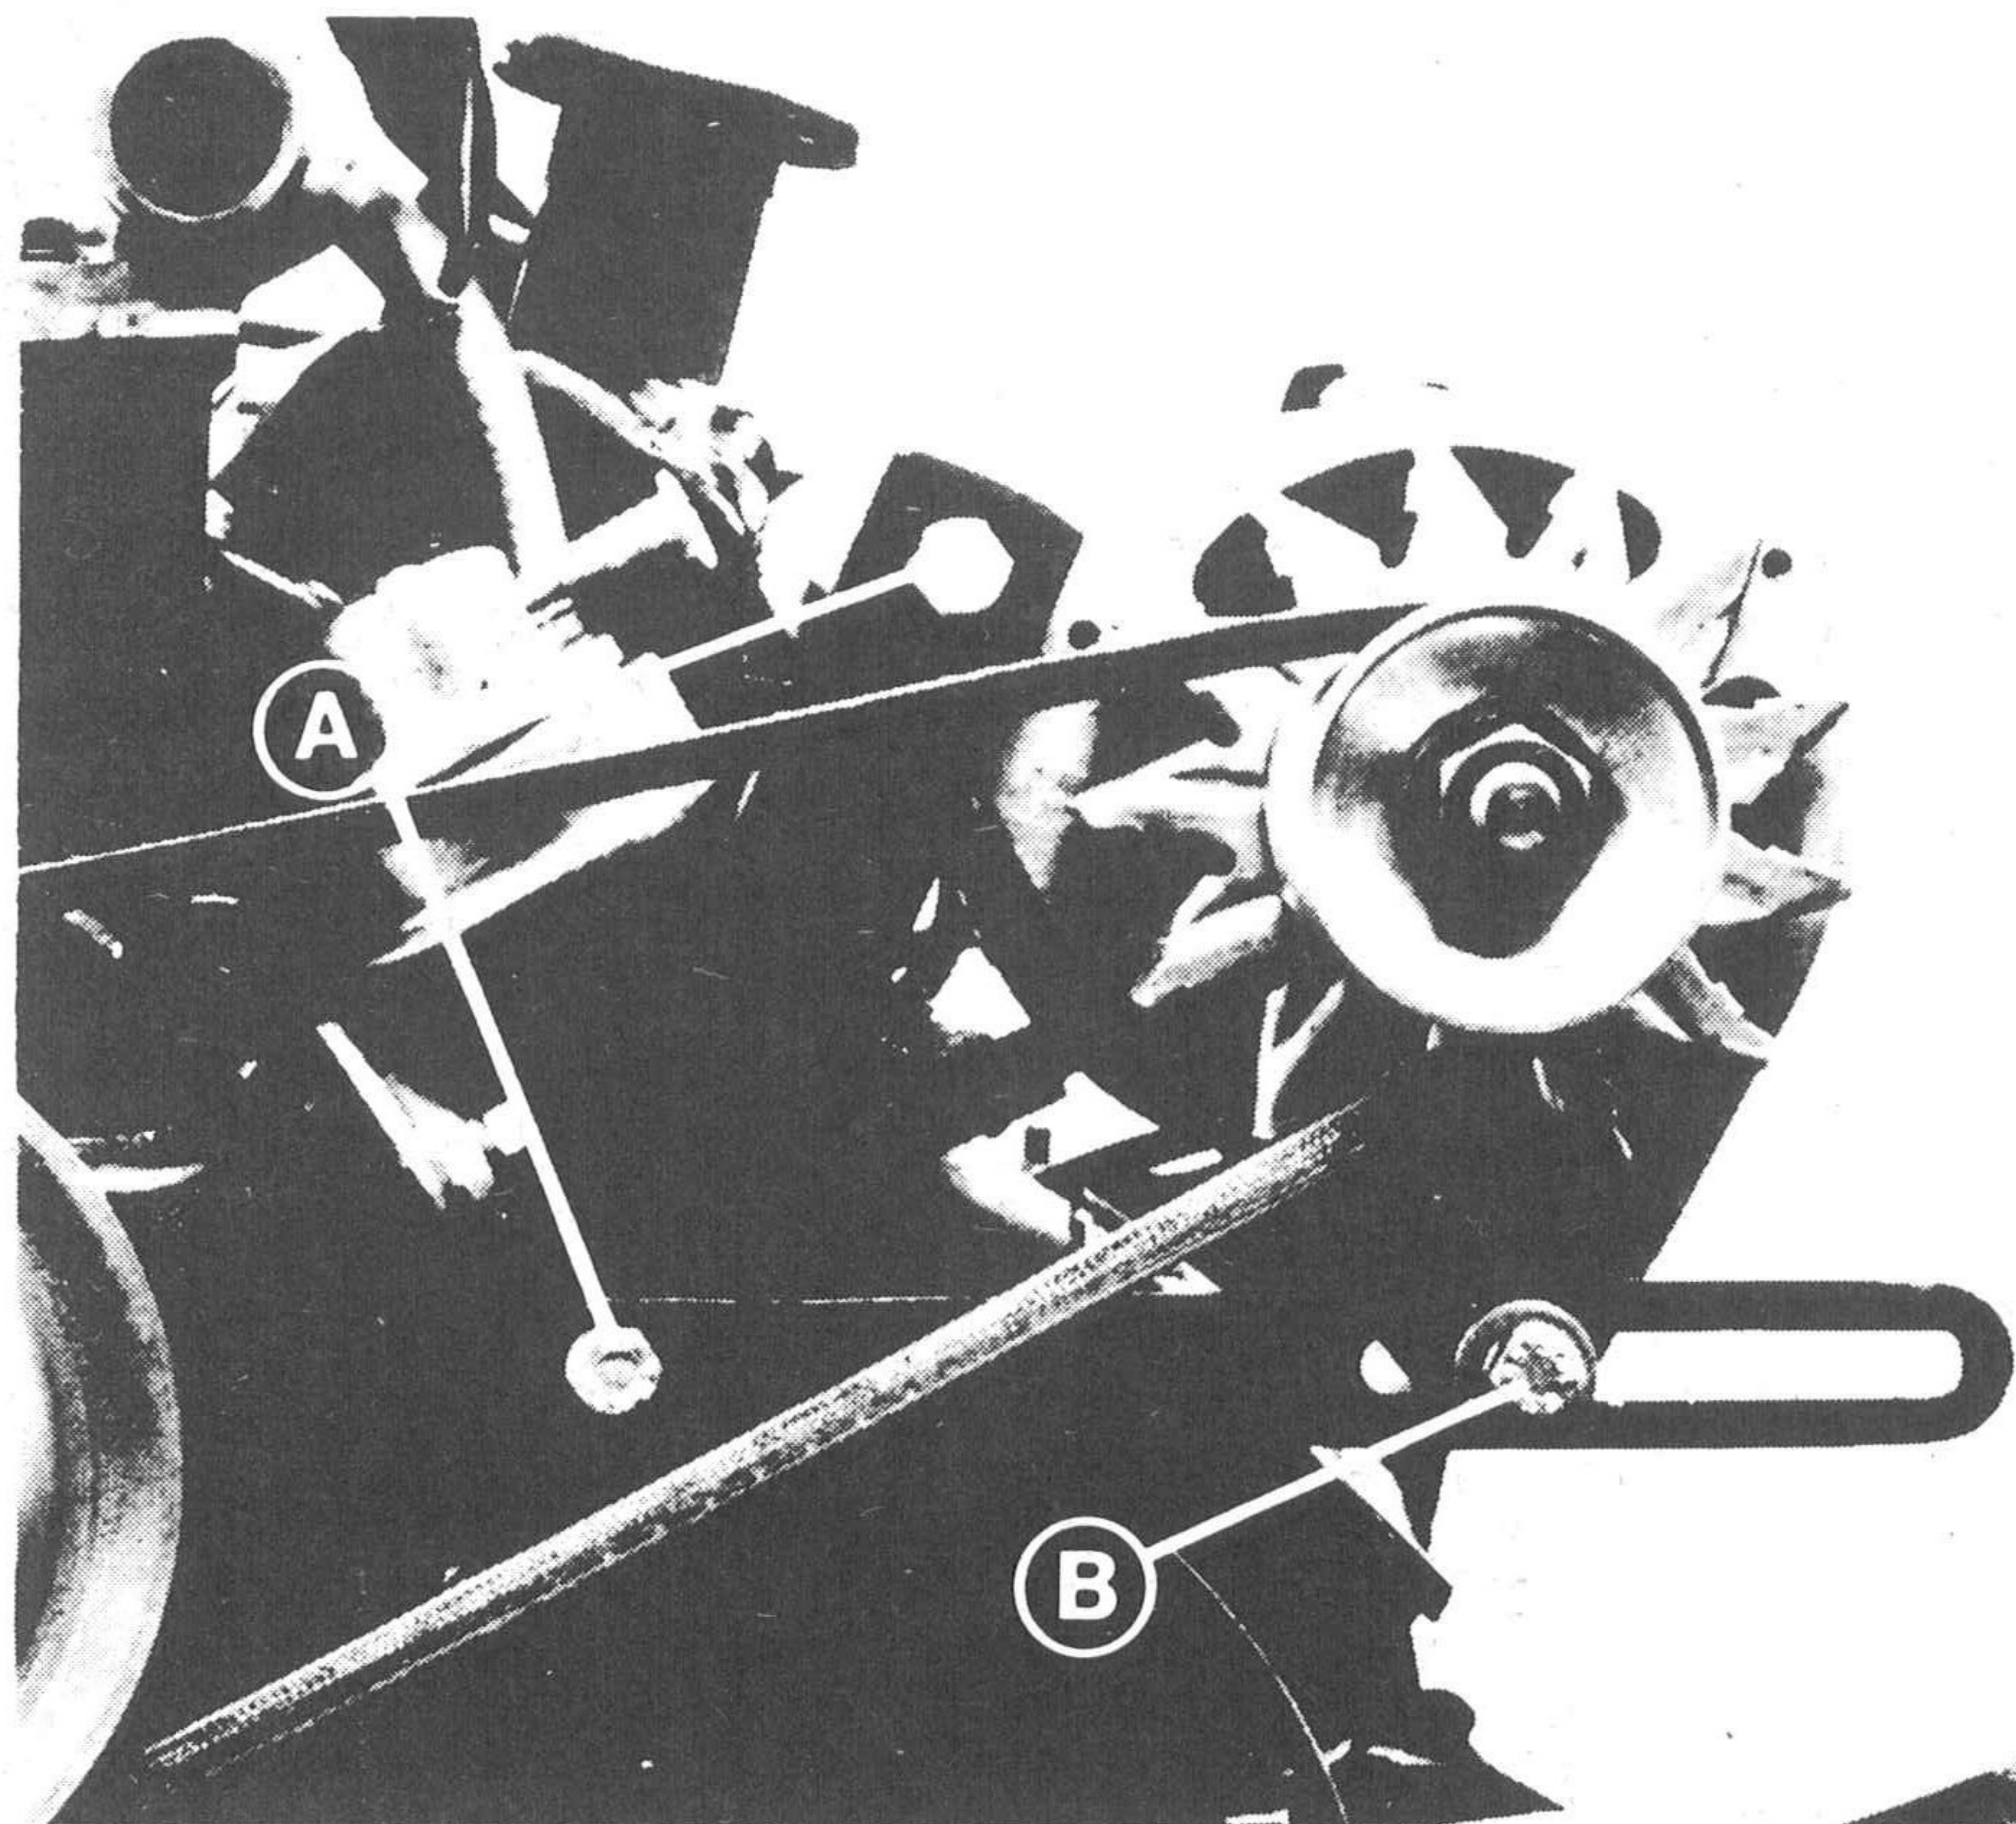

Fig 40
**Alternator.** The alternator has a separate belt drive, which should be tensioned to permit a deflection of  $\frac{1}{2}$ -inch (12 mm) at mid-point under hand pressure. Too tight a belt can damage alternator bearings. To adjust the belt, slacken off the mounting bolts 'A' (Fig 40) and adjuster bolt 'B', move the alternator until tension is correct and retighten the bolts. The end cover and ventilating slots must be kept clean, and terminals greased lightly with petroleum jelly or battery grease.